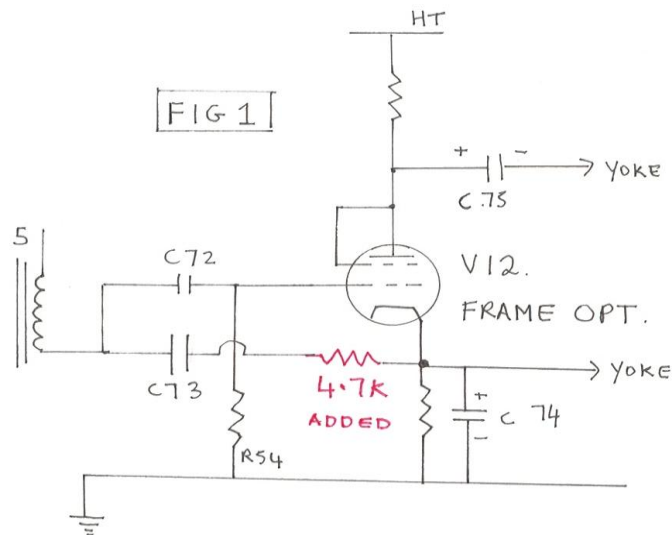

FIG 2
- 3) When the contrast control is set for satisfactory synchronisation, the video drive level to the CRT is too high for the sensitivity of the 5FP4, and the attenuator network is required, see FIG2.